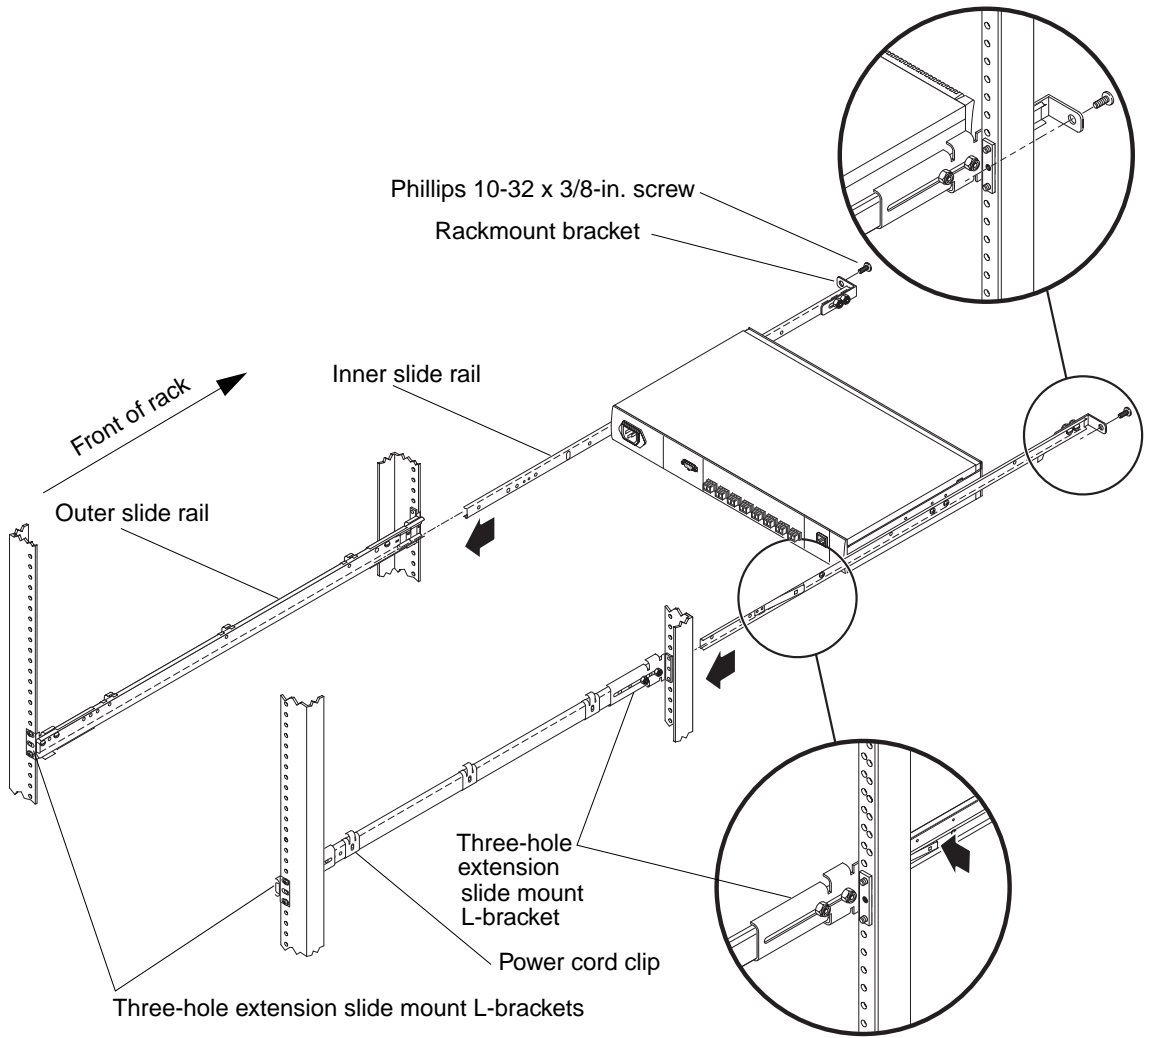

FIGURE 1-2 Brocade SilkWorm 3200, 3250, and 3850 Switch and Outer Slide Rail Installation
- a. See FIGURE 1-2. Use two of the slotted head 8-32 x 3/8-inch screws per L-bracket, with the screw heads on the inside of the slide rails and a lock nut on the end of each screw.
b. Position the outer slide rail in the rack and adjust the L-brackets to accommodate the depth of the cabinet. Refer to FIGURE 1-2.
To allow the 3200, 3250, or 3850 switch to slide out the front of the rack, orient the rail as shown in FIGURE 1-2, with the closed end of the slide rail towards the back of the rack.
d. Attach the L-bracket on the front end of the outer slide rail to the corresponding rack vertical rail, using two of the Phillips 10-32 x 3/8-inch screws. See FIGURE 1-2.
- a. Position the switch next to the rack as shown in FIGURE 1-2, and insert the inner slide rails into the outer slide rails.
2. Attach the rackmount brackets to the vertical rack rails using one Phillips 10-32 x 3/8-inch screw per bracket, tightening the screws to a torque of 25 inch-pounds (28.8 cm-kgs). See FIGURE 1-2.
- a. Place the power cord clips on the outer slide rails. See FIGURE 1-2.